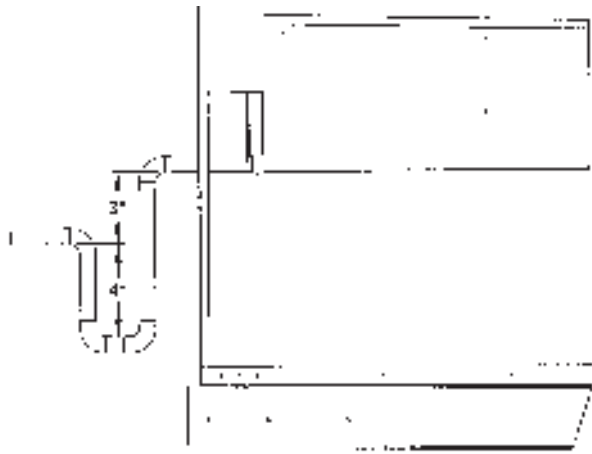

Fig. 19 — Condensate Drain Trap Piping Details (Typical Roof Curb or Slab Mount Shown)
Step 5 — Trap Condensate Drain — See Fig. 6-14 for drain location. Condensate drain is open to atmosphere and must be trapped. Install a trapped drain at the drain location. One 1-in. female pipe coupling is provided inside the unit evaporator section for condensate drain connection. A trap at least 4 in. deep must be used. See Fig. 19. Trap must be installed to prevent freeze-up.